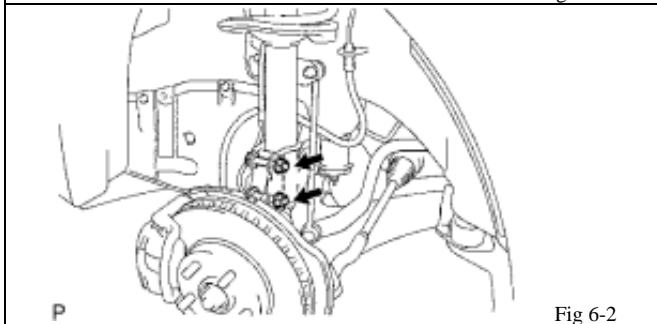

Fig 6-2
- (b) Install the shock absorber with coil spring to the steering knuckle with the 2 nuts. (Fig 6-2)